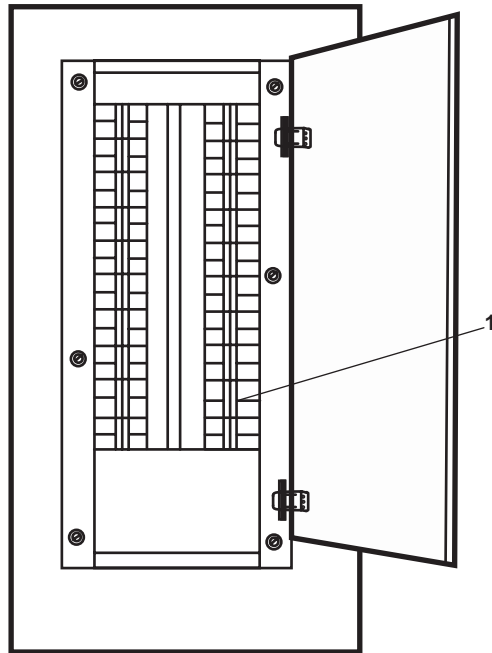

Figure 4. 120V Distribution Panel No. 4
3. At 120V distribution panel No. 4, set the ROWPU BATTERY CHARGER circuit breaker (figure 4, item 1) to ON.